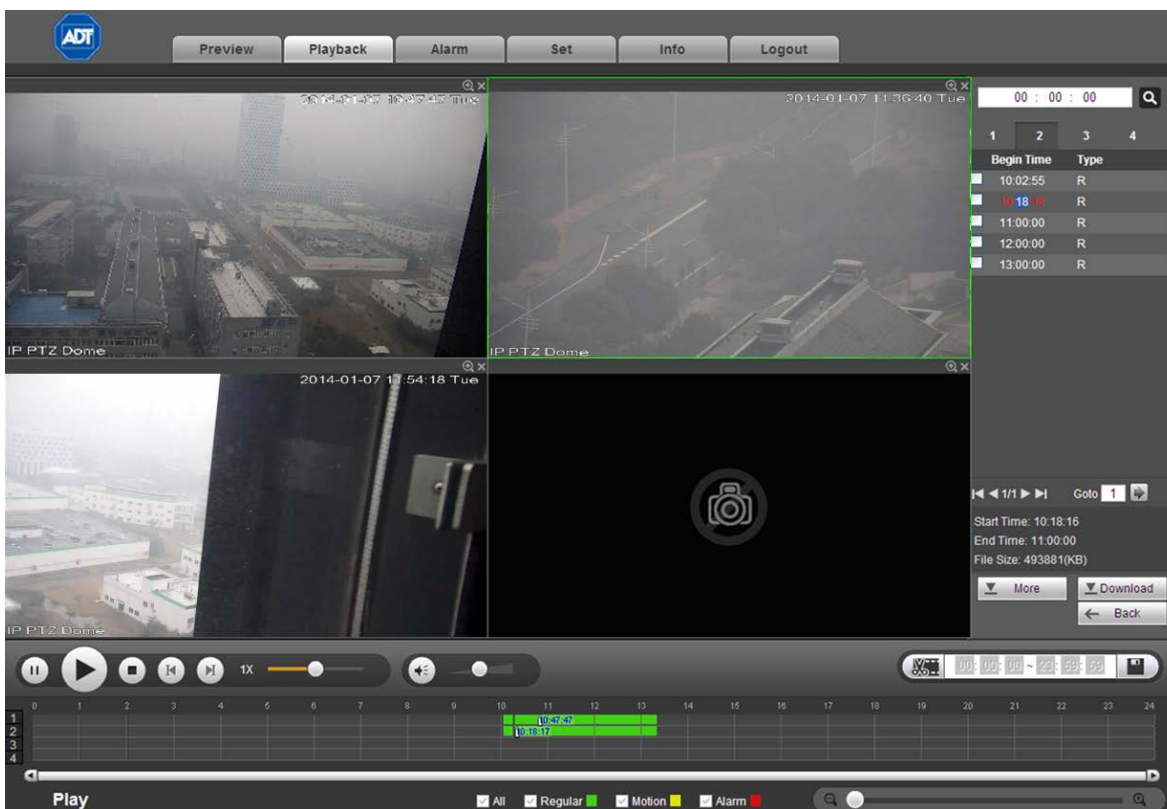

Figure 4-7
4. Click the **File List** button. The corresponding files in the list appear, as shown in Figure 4-7.